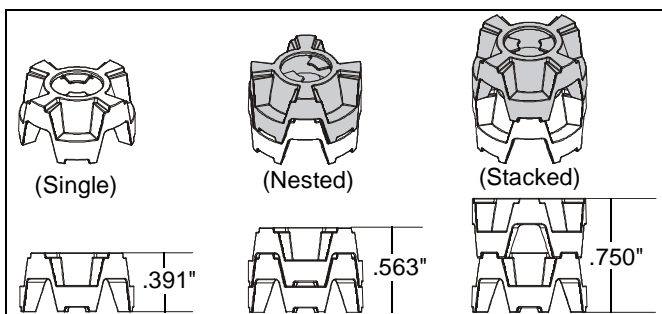

Figure 6
**NOTE:** The nesting spacers (G) may be used separately, or put two together in different configurations to create different size spacers. (See Figure 6)